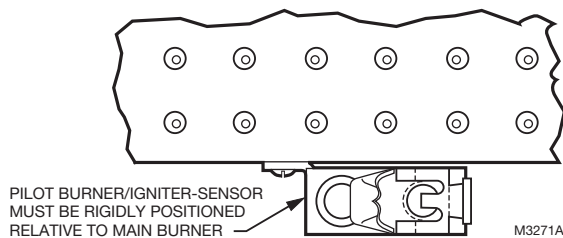

Fig. 13. Mount pilot burner/igniter-sensor on main burner.
2. Mount the pilot burner/igniter-sensor on the main burner. Mounting surfaces other than the main burner can shift, bend, or warp as the furnace expands and contracts during operation. See Fig. 13.